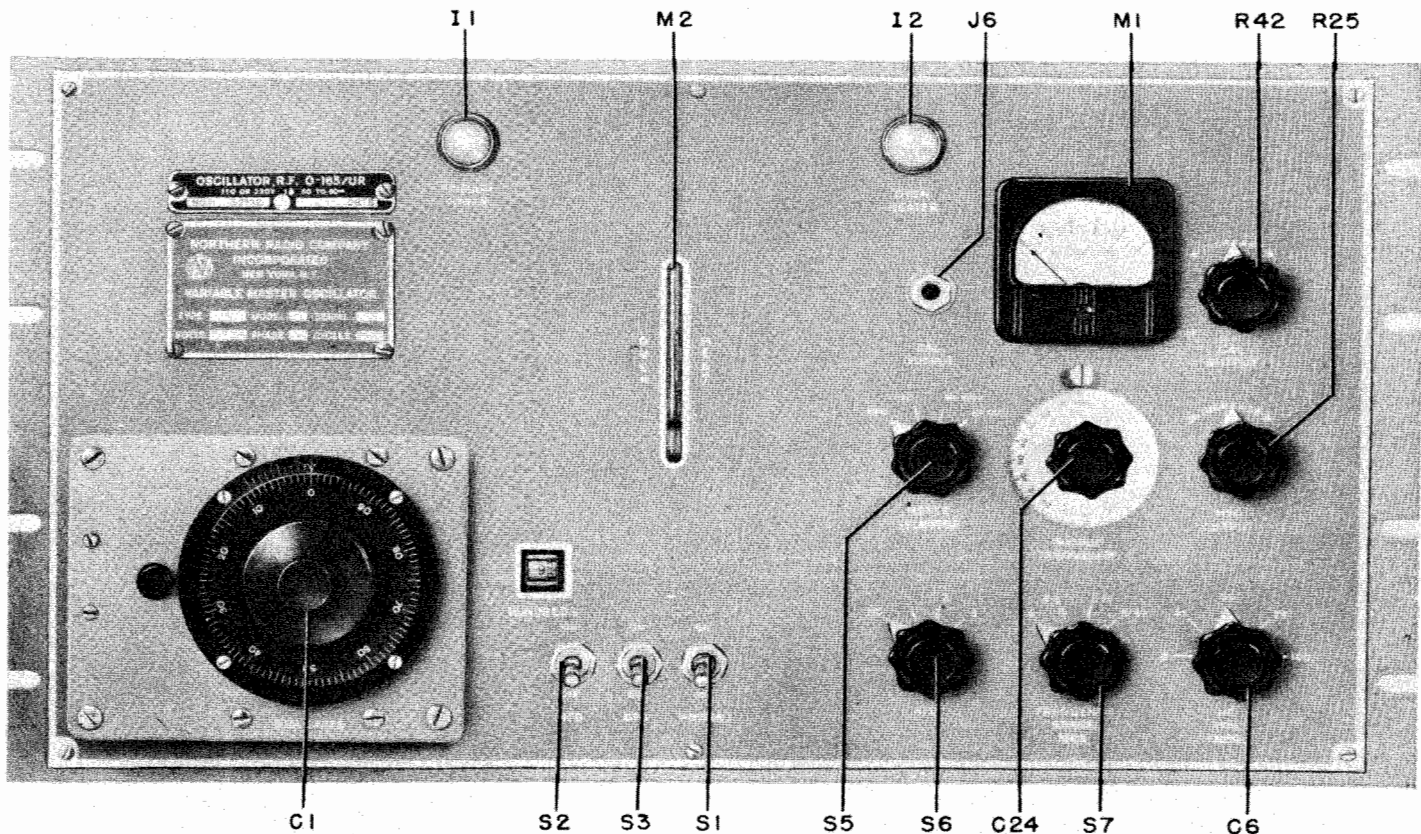

Figure 4-1. RF Oscillator O-165/UR, Front View, Operating Controls and Adjustments
a. TUNING OF VARIABLE HFO. (See figure 4-1 and 4-2.)—The following procedure is used for tuning the variable HFO:
- (1) Turn POWER ON-OFF switch to ON.